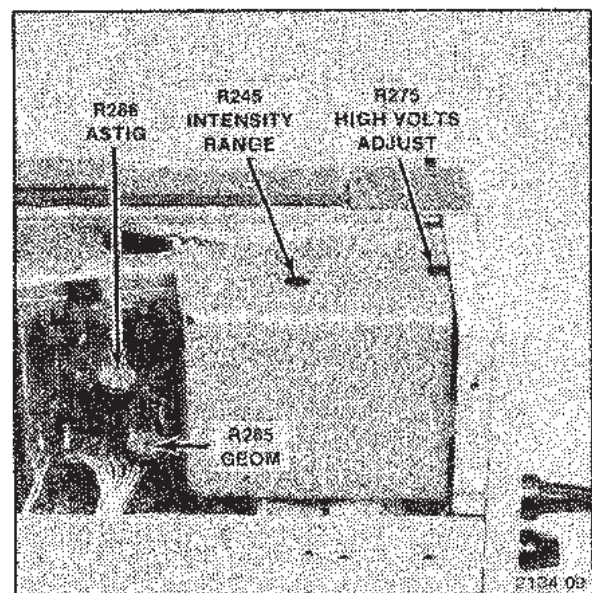

Fig. 3-3. Locations of high-voltage, intensity, and display adjustments.
f. Adjust—High Volts Adjust R275, using an insulated screwdriver, for a meter reading of exactly -3400 volts. See Fig. 3-3 for adjustment location.
f. Adjust—Intensity Range R245, using an insulated screwdriver, for a very dim spot display. See Fig. 3-3 for adjustment location.
d. Adjust—Astig R286 and FOCUS control together, using an insulated screwdriver, to obtain the best definition round-spot display. See Fig. 3-3 for adjustment location.
e. Adjust—Geom R285 for minimum bowing and tilt of the trace display at the left and right edges of the graticule. Adjustment may have to be compromised to obtain less than 0.1 division bowing and tilt everywhere within the graticule area. See Fig. 3-3 for adjustment location.